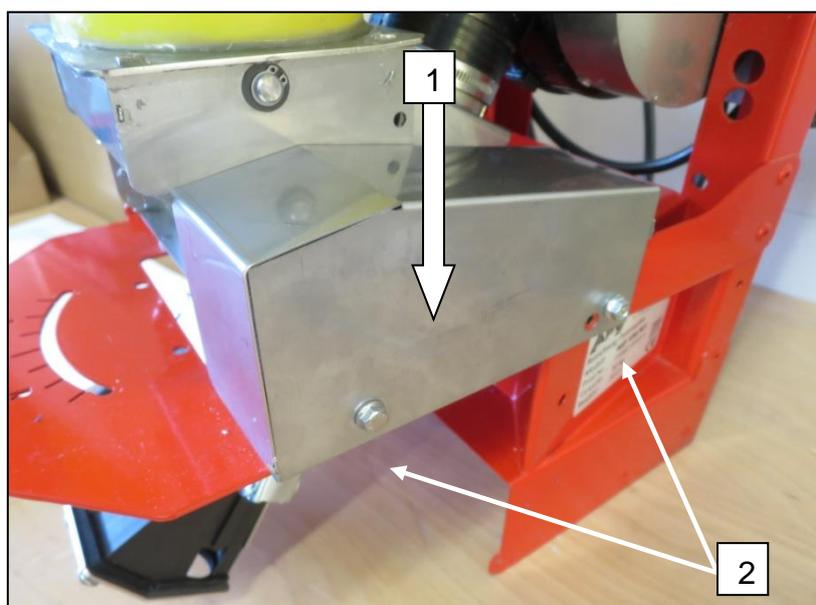

Fig.: 151
- To install the seeding shaft motor cover, position it from top to bottom 1 (Fig.: 151) over the seeding shaft motor and fasten it with the existing bolts 2.